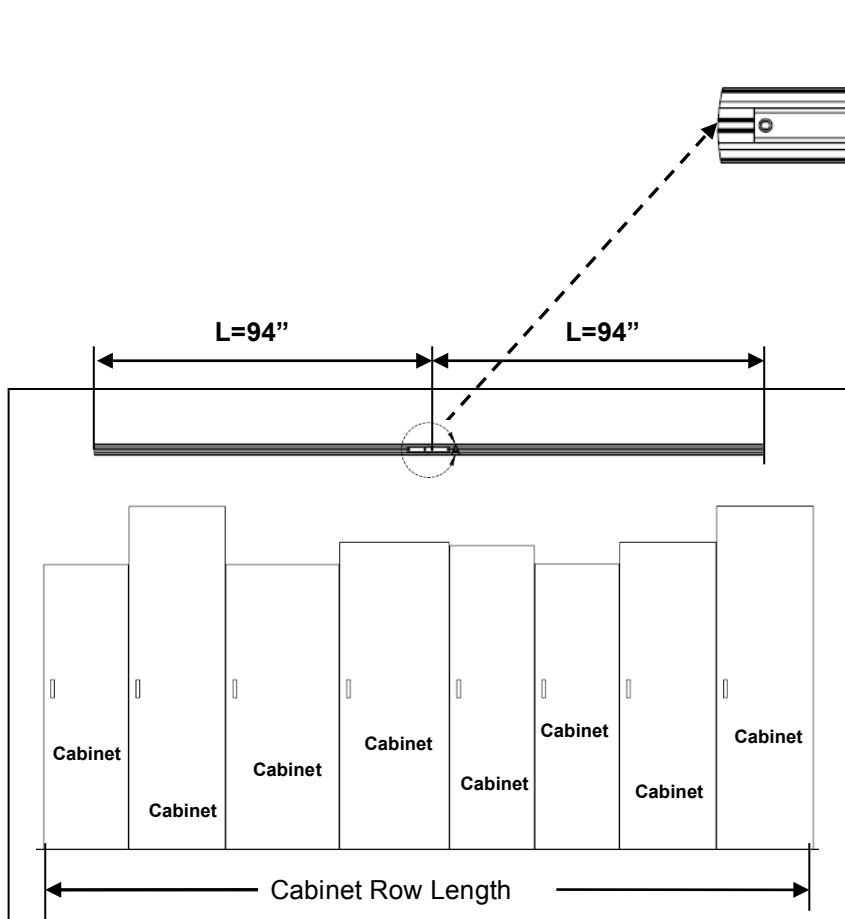

Fig. 5
- a. Position the Joiner along the length of the cabinet row (Fig. 5).